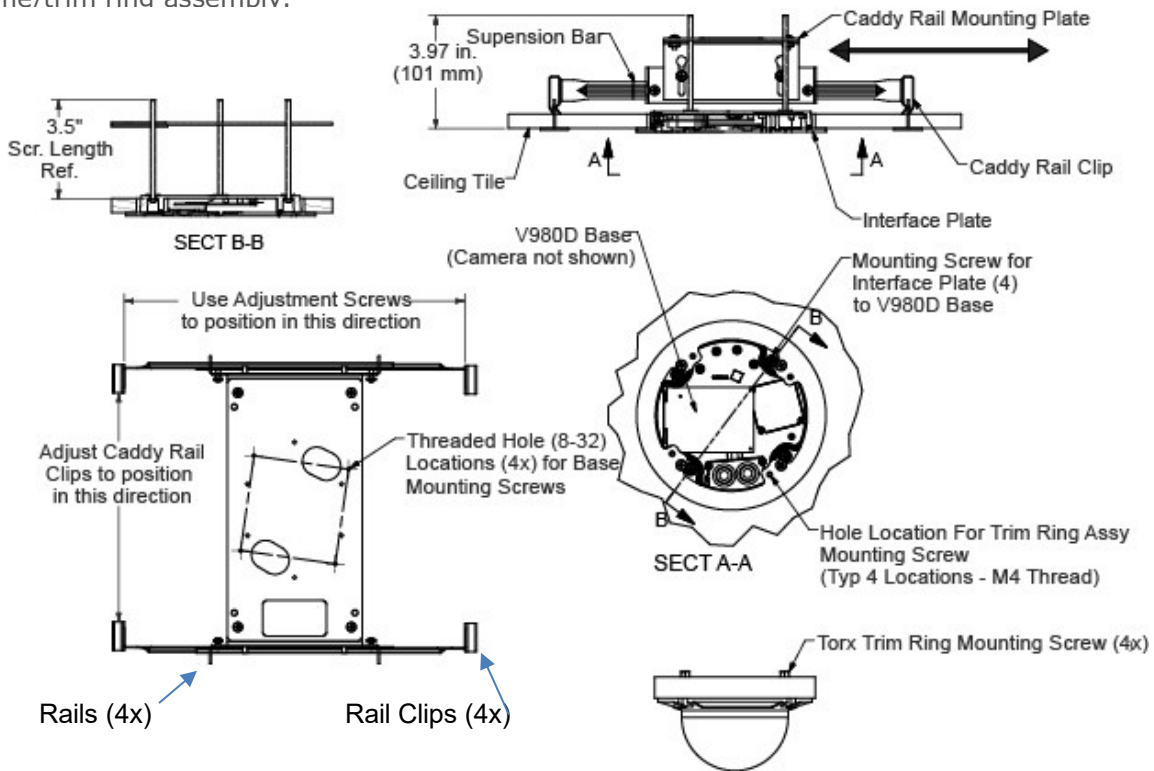

Figure 3
2. Install the interface plate onto the base of the V980D with the four (4) M4 flat head screws provided.
6. Working from the adjacent tile area, position this rail/bracket assembly squarely over the hole and replace the cut tile in the ceiling. Place the rail/bracket assembly into the hole and fasten the caddy rail clips to the existing frame. Refer to Figure 3.
8. Align the four mounting holes in the camera base with 8-32 holes provided on the caddy rail mounting plate (Figure 3) and secure the camera base to the mounting plate, using the supplied 8-32 x 3.5 pan head screws. Tighten each screw a little at a time until snug. Do NOT OVERTIGHTEN screws. Reattach the lanyard inside the base.